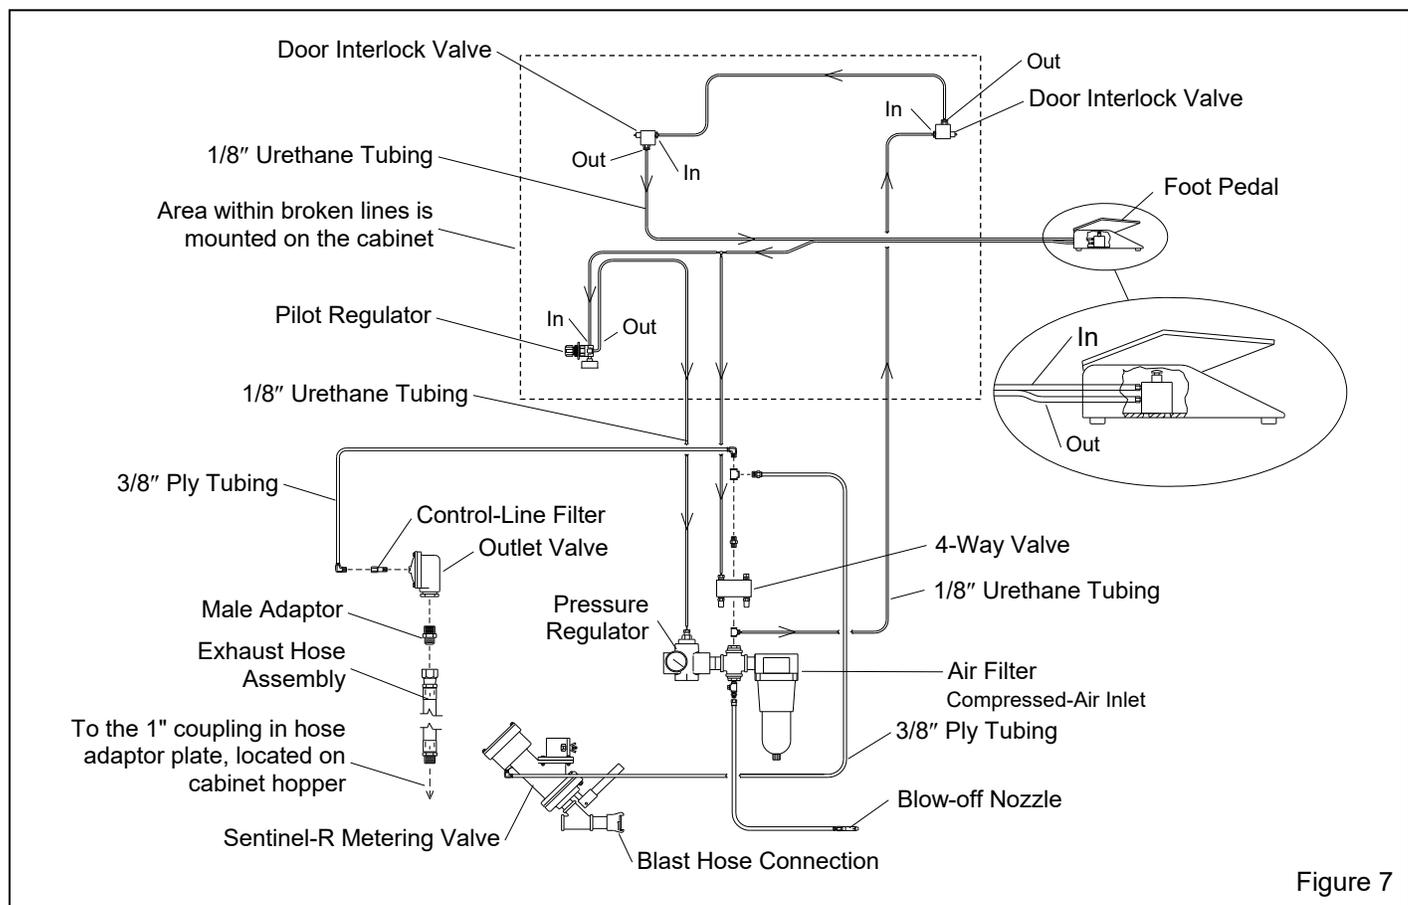

Figure 7
2.1.1 Refer to Figure 1 (and Figure 2 for optional reverse-pulse collector) for the general arrangement and Figure 7 for the control line schematic. Select a location where compressed air and electrical service are available. The cabinet location must comply with OSHA and local safety codes. Allow for full access to all doors and service areas and for efficient handling of large parts. Provide enough clearance in front of the dust collector to remove the dust drawer without tipping. Ideally, locate the blast machine directly behind the cabinet with the blast hose connection toward the cabinet. The reclaimer may be rotated on the blast machine to allow for as few bends as possible to prevent wear. Determine the best location for all components and position them before making compressed-air connections, electrical connections, and attaching flex hose.